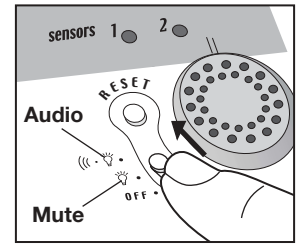

Fig. 2
2. Slide the **On / Off Switch** to **mute** or **audio** position (Fig. 2). The **Map Grid** will illuminate.